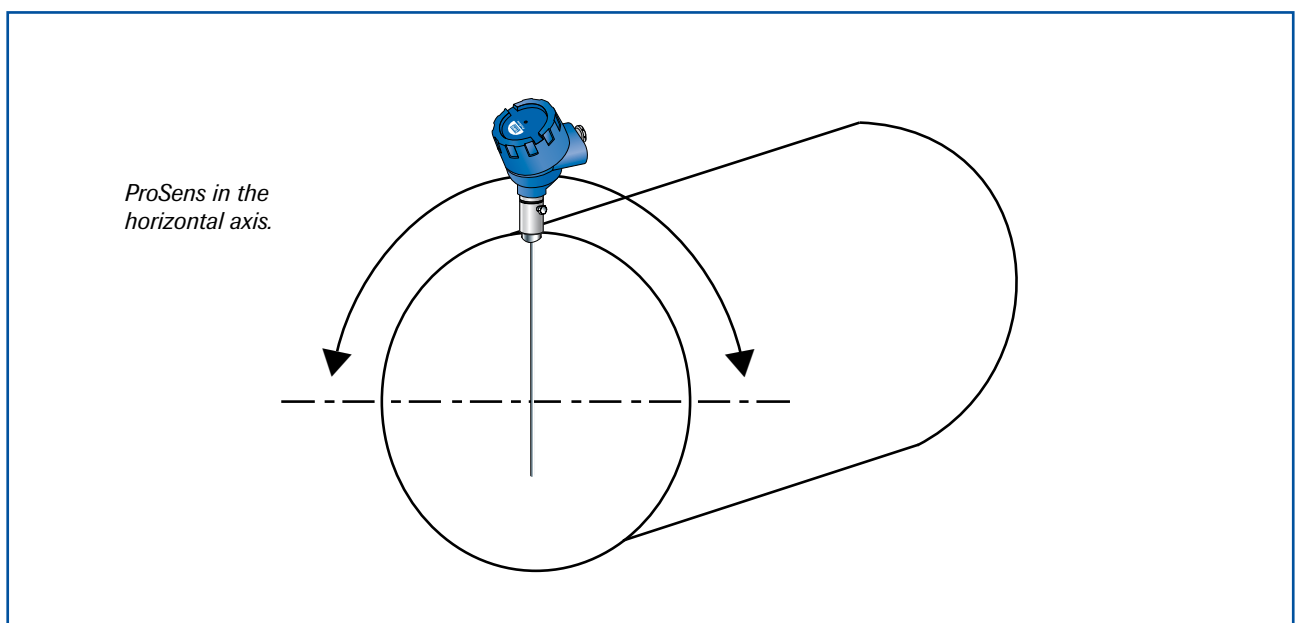

Fig. 3a: Round cross-section
2. In horizontal pipes with a round cross-section, the ProSens can be installed in any position above the horizontal axis (between 9 and 3 o'clock). (See figure 3a)